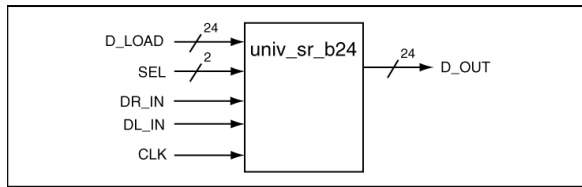

Figure 7: The black box diagram for Question
3. You used an 8-bit universal shift register (USR) in this experiment. Use the VHDL model for this USR to create a 24-bit universal shift register using three 8-bit USRs. Figure 7 shows the final block diagram for this device. Your solution should use structural modeling and instantiate the required number of 8-bit USRs used in this experiment.